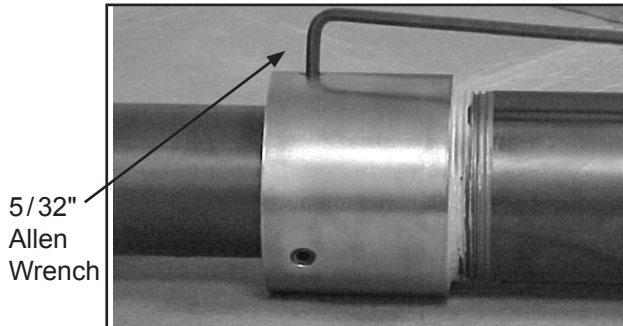

Figure 8: Tighten Setscrews
19. Tighten each setscrew an additional full turn minimum. The head of the setscrews should be flush or below flush with the outer surface of the coupling (Figure 8).